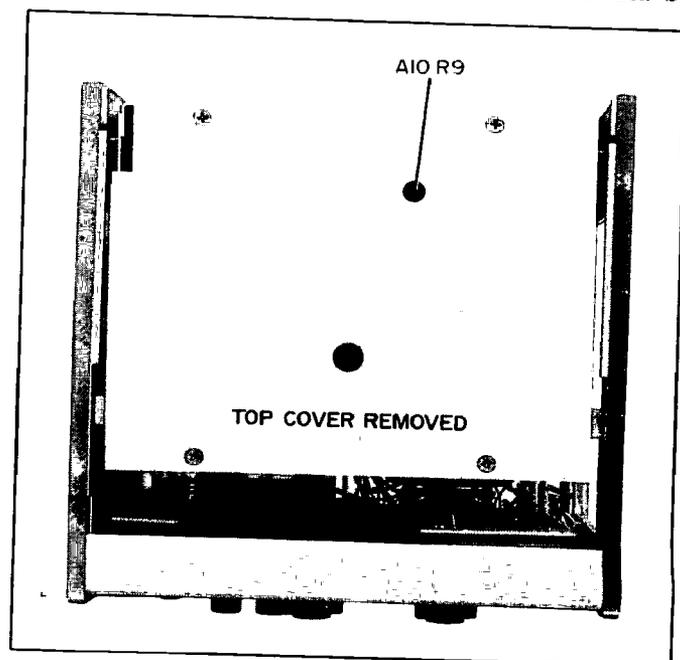

Figure 5-1. 4329A Adjustment Locations
c. Set MODE to "MEASURE" and RANGE to I_{MAX} , and apply 200mV dc to the UNKNOWN Rx(-) BNC connector (center conductor is positive and outer conductor is negative) using suitable regulated power supply and attenuator combination. Note the deflection and set it to full-scale using AMP, SENS, ADJ. A10R9 (Remove top cover for access to adjustment through hole in circuit shield. See Figure 5-1). Disconnect 200mV.